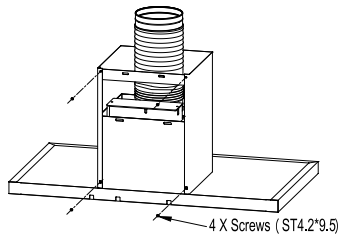

Fig.3
- Fix the exhaust pipe and chimney on the main body connect chimney installation plate and chimney. See Fig.3.